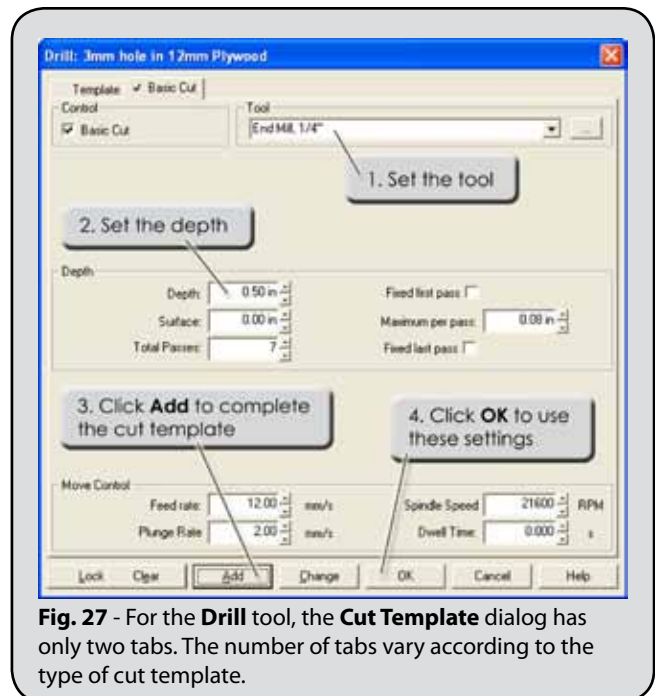

Fig. 27 - For the **Drill** tool, the **Cut Template** dialog has only two tabs. The number of tabs vary according to the type of cut template.
4. Click the **Basic Cut** tab to set the feeds and speeds (Fig. 27).